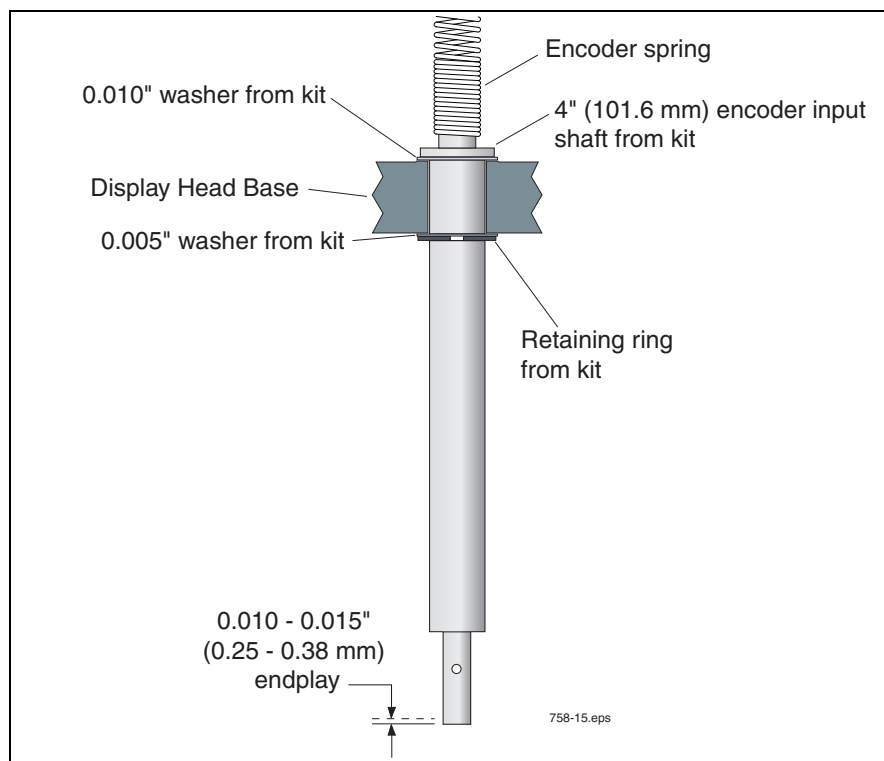

Figure 16. Assembling Neptune Adapter Shaft Group In Display Head Base
14. Assemble the new shaft, the 0.005" and 0.010" washers and the retaining ring in the Display Head base as shown in Figure 16.